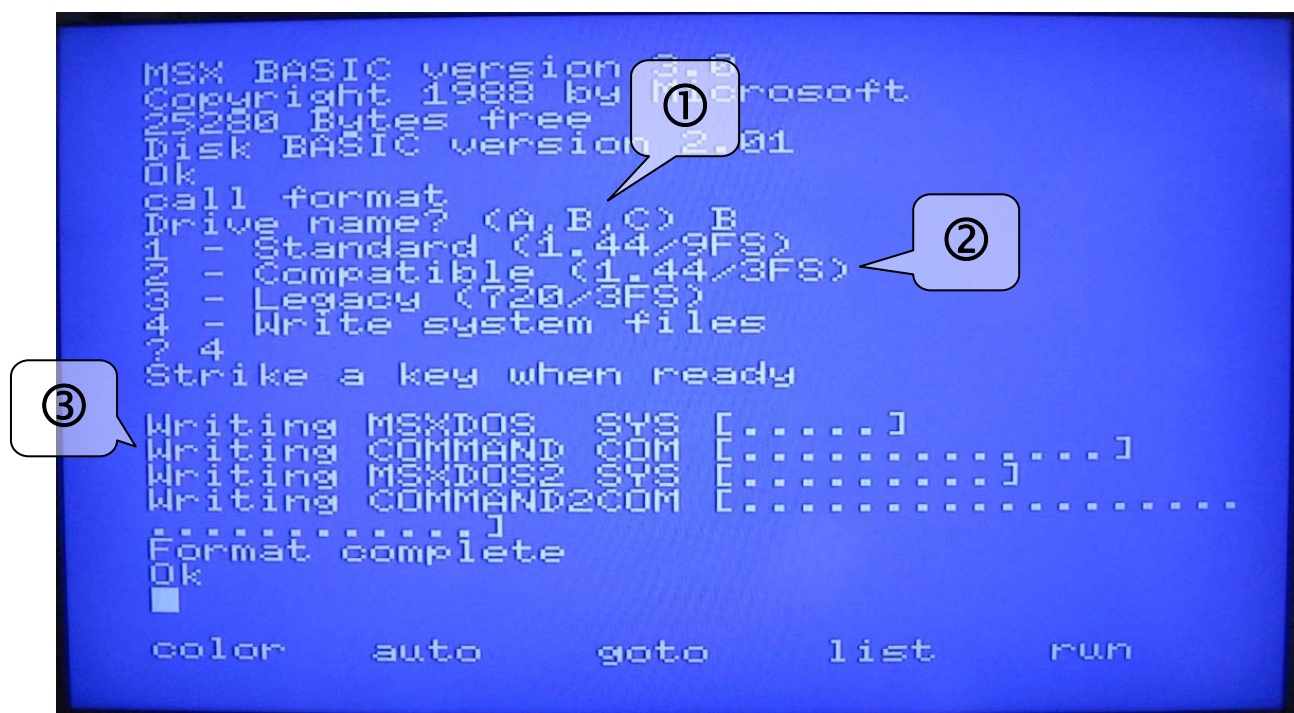

Figure 5.4. Diskette formatting dialogue
When you invoke the ROM-embedded formatting command (fig. 5.4), you will select logical drive (and media in it) to perform operation on (1).